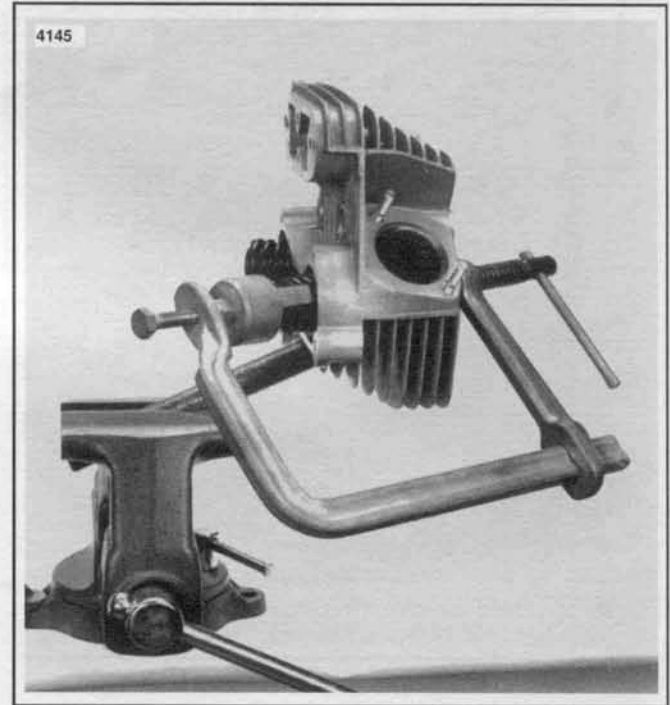

Figure 3-21. Compress Valve Springs
2. See Figures 3-21 and 3-22. Compress valve springs (4 and 5) with VALVE SPRING COMPRESSOR, Part No. HD-34736B.
9. See Figure 3-21. Compress valve springs with VALVE SPRING COMPRESSOR, Part No. HD-34736B.